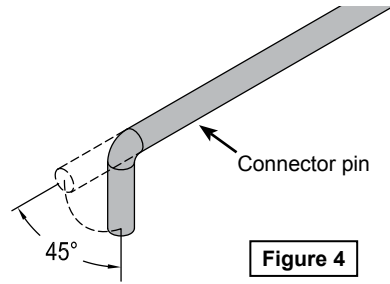

Figure 4
1. With the connector pin installed securing the reel, use pliers to bend the straight end of the connector pin to an approximate 45° angle. **Figure 4.**